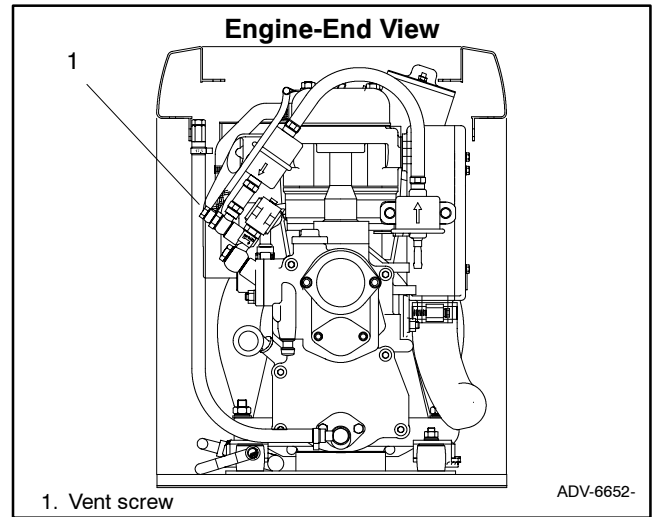

Figure 5-15 Vent Screw Location
1. Loosen the vent screw. See Figure 5-15.